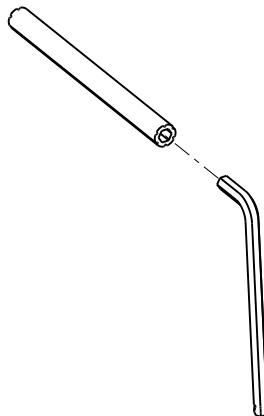

Figure 9 – Hex wrench and removal tool extension
2. Remove the hex wrench and removal tool extension from the center cover assembly (Figure 9).